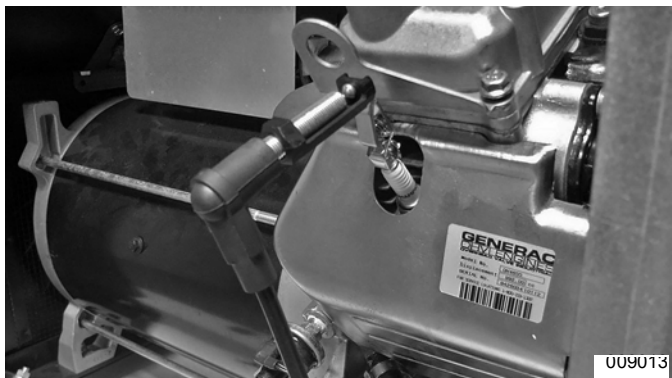

Figure 3-63. Checking Engine Miss
7. See Figure 3-63. To determine if an engine miss is ignition related, connect the spark tester in series with the spark plug wire and spark plug. Then, crank and start the engine. A spark miss will be readily apparent. If spark jumps the spark tester gap regularly, but the engine miss continues, the problem is in the spark plug or in the fuel system.